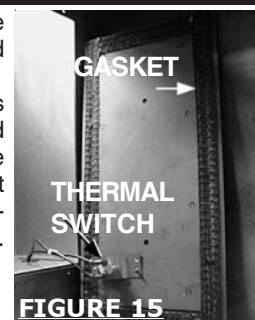

FIGURE 15
3. The access panel can be removed by taking out the 8 #10 self tapping screws. A 5/16" nut driver will be required to complete this job. Unplug wires from the thermal switch on the panel. See **FIGURE 15**.